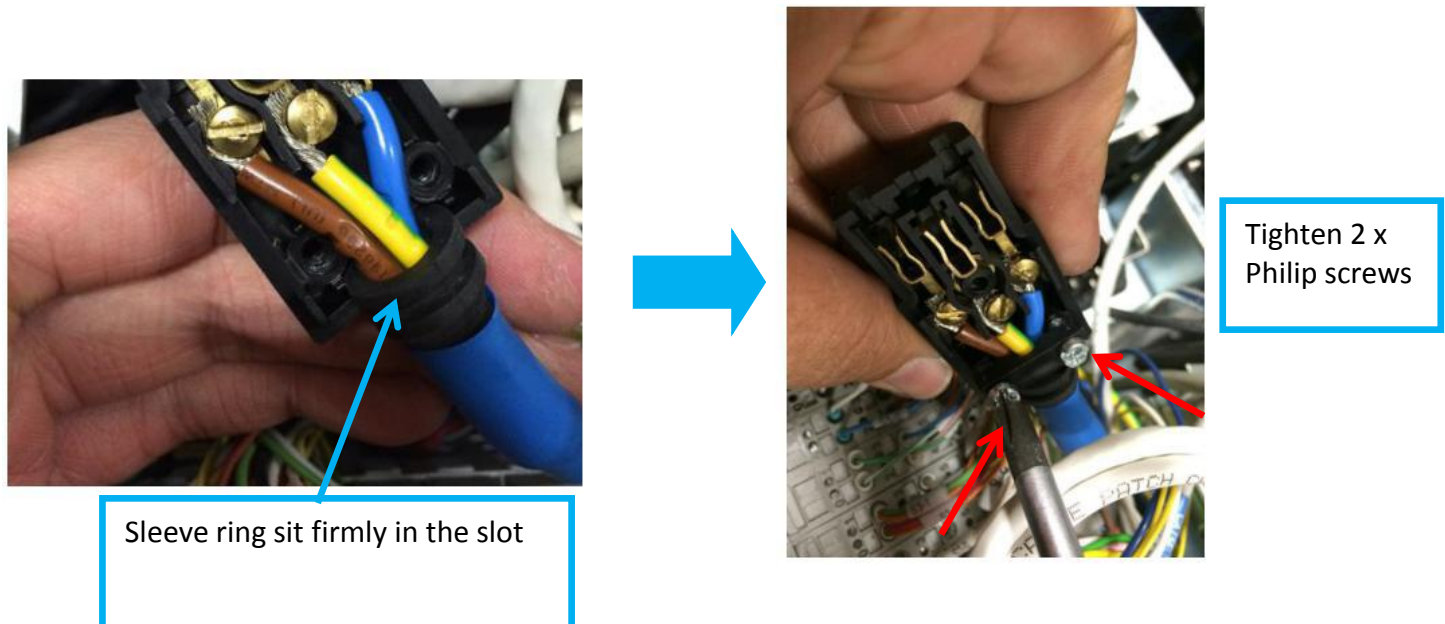

Figure 21
26. Gently position sleeve ring where attach with existing power cable into slot as Figure 21. Assemble cable clamp by tighten 2 x Philip screws as Figure 21.